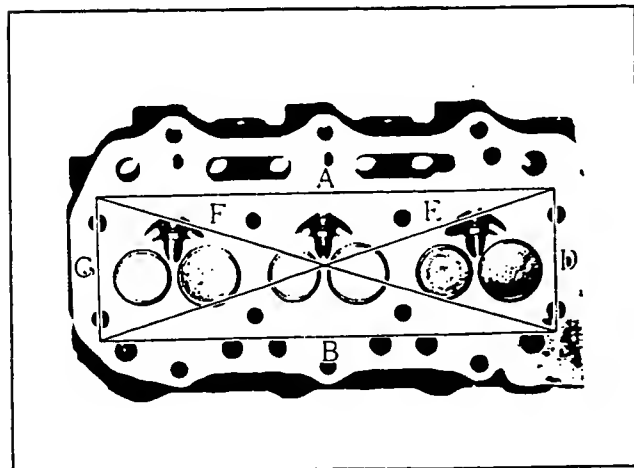

Figure 6. Check Points for Cylinder Head Warp
Use a straight edge and a thickness gauge to check warpage on the cylinder head lower face. Check with the straight edge at six (6) points, as shown in Figure 6. If warped excessively, correct with a surface grinder.
Inspect the cylinder block top face for damage, cracks, warpage. Use the same method that was used for checking the cylinder head warp (Figure 6, Page 2.4-2). Allowable warp limit is the same as for the cylinder head.